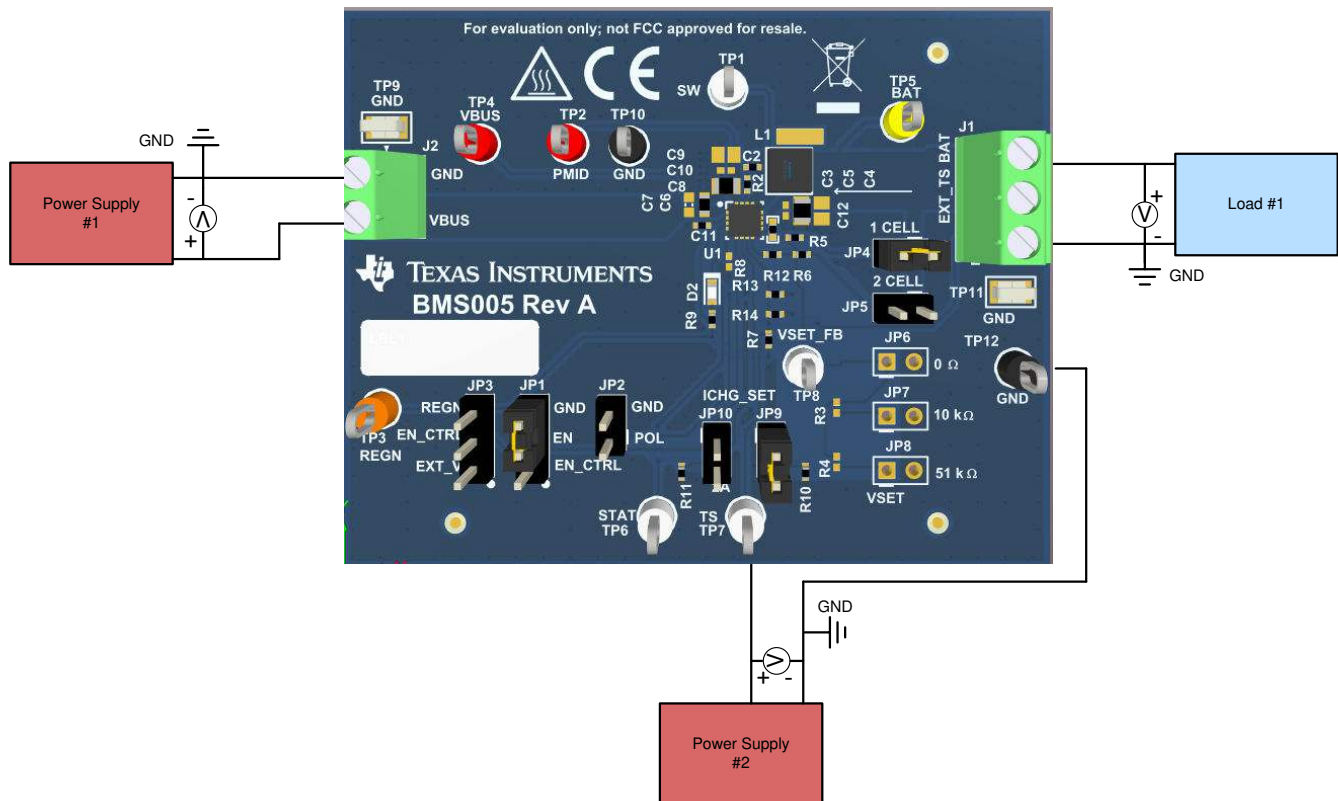

Figure 2-1. Original Test Setup for BMS005-004
4. Connect the output of PS1 to J2 (VBUS and PGND) as shown in Figure 2-1.
6. Turn on Load #1, set to constant voltage mode, and output to 2.5-V. Disable Load. Connect Load to J1-3 (BAT) and J1-1 (PGND) as shown in Figure 2-1.
7. Connect one voltage meter across TP5 (BAT) and TP11 (PGND), or across J1-3 and J1-1 as shown in Figure 2-1.
9. Connect the output of PS2 to TP7 (TS) and TP12 (PGND) as shown in Figure 2-1